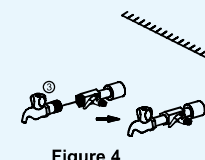

Figure 4.
3. The other end of the 3-way connector can be connected to a tap (marked as no.3) as shown in Figure 4. or can be plugged off if not required.